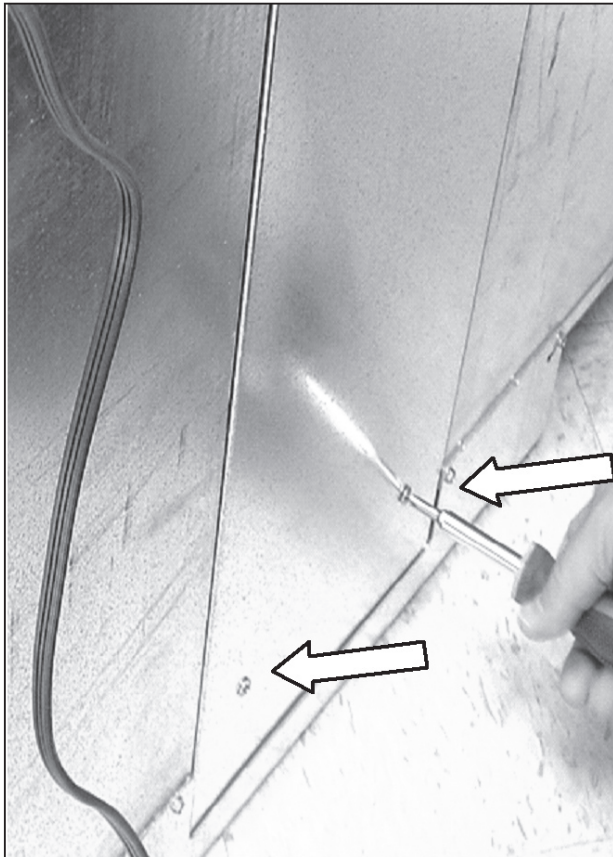

Figure 1
2. Remove 2 screws and lift out the rear access panel, see figure 1.